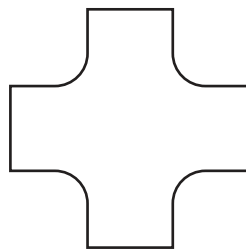

Fig. 7
- (b) Fig. 7 shows an alternative design that was considered for the end of the desk.
- Describe **two** problems with the design shown in Fig. 7. [4]